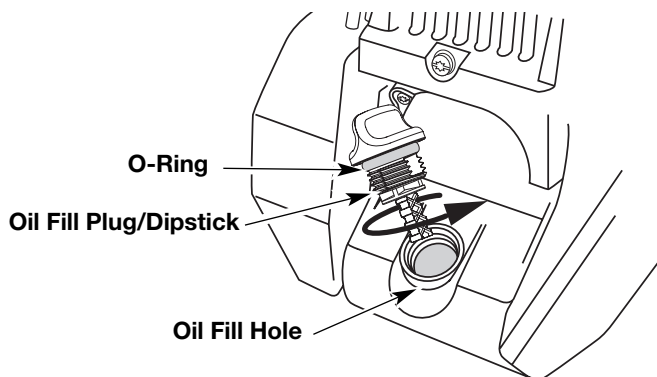

Fig. 24
6. If the level is low, add a small amount of oil to the oil fill hole and recheck (Fig. 24). Repeat this procedure until the oil level reaches the top of the dipstick.
**NOTE:** Make sure the O-ring is in place on the oil fill plug/dipstick when checking and changing the oil (Fig. 24).